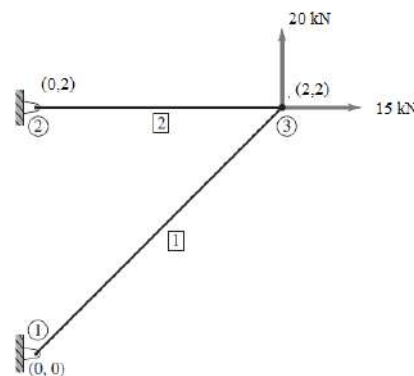

Fig. 2
7. A two-member truss is loaded as shown in Fig.2. The area of cross section of each element is 500 mm² and E = 200 GPa. Compute the displacement components at node 3, reactions at supports and member stresses